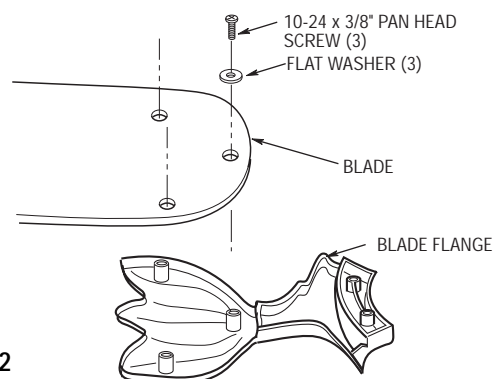

Figure 22
- 14. Use three 10-24 x 3/8" pan head screws and flat washers (supplied) to secure flange to blade (blades ordered separately) (Figure 22). Repeat for the remaining four blades.